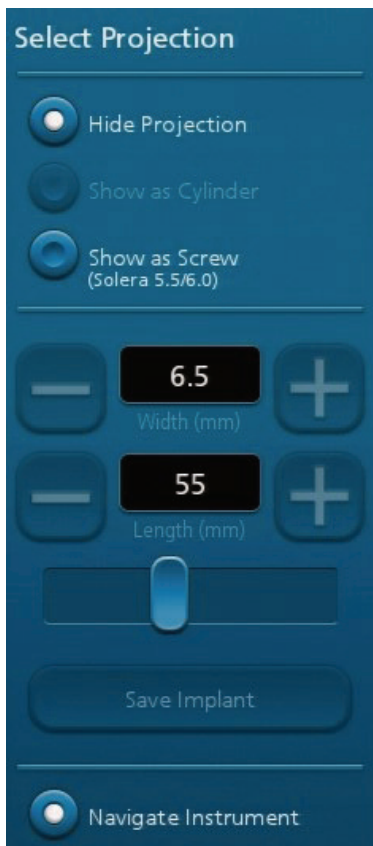

Figure 7
- Once the driver has been selected, click on the “Select Projection” button and use the plus and minus buttons to select the corresponding screw dimensions (Figure 7).